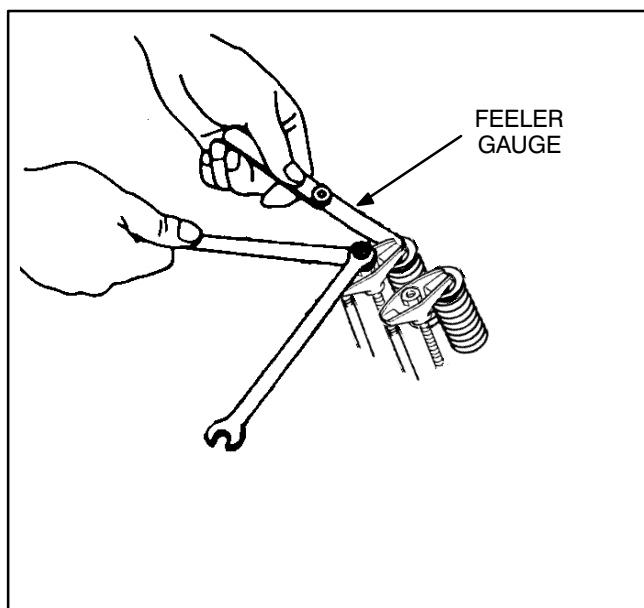

FIGURE 9-11. VALVE CLEARANCE ADJUSTMENT
3. Clearances are shown in Section 3. *Dimensions and Clearances*. For each valve, the gauge should just pass between the top of the valve stem and the rocker arm. (See Figure 9-11.)